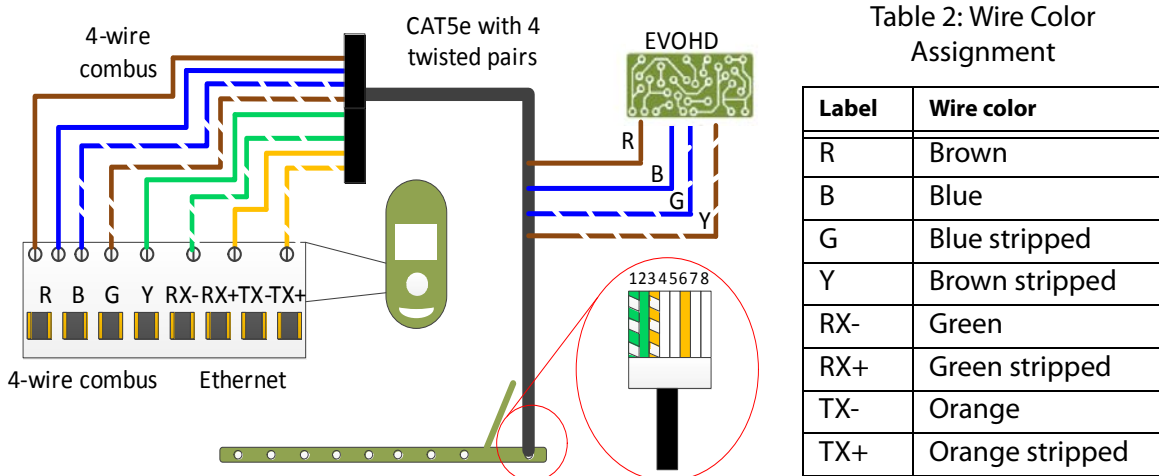

Figure 4 – Recommended Wiring Option#1
10. Connect the combus wires and the Ethernet wires. See *Figure 4* and *Figure 5* for wiring instructions.
Step 10. Connect the combus wires and the Ethernet wires. See *Figure 4* and *Figure 5* for wiring instructions.